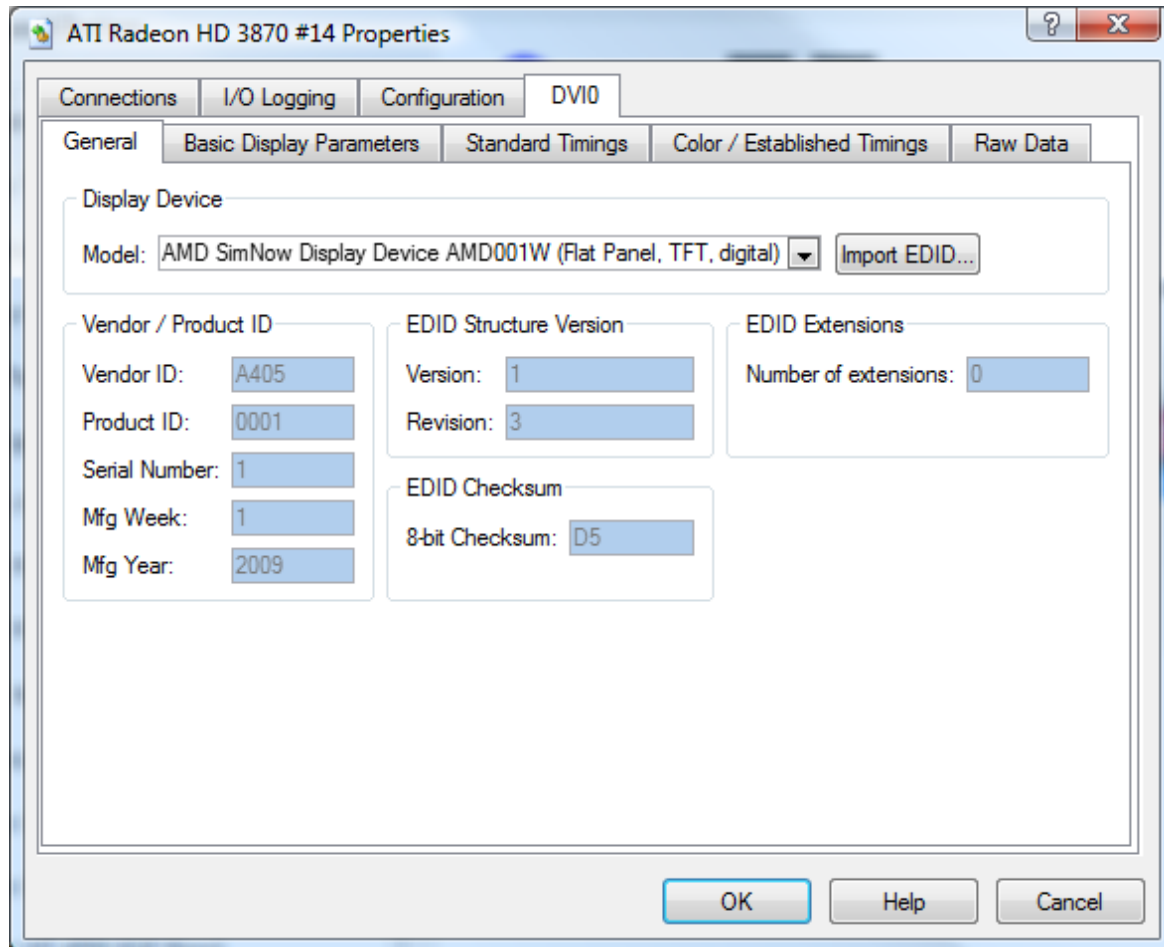
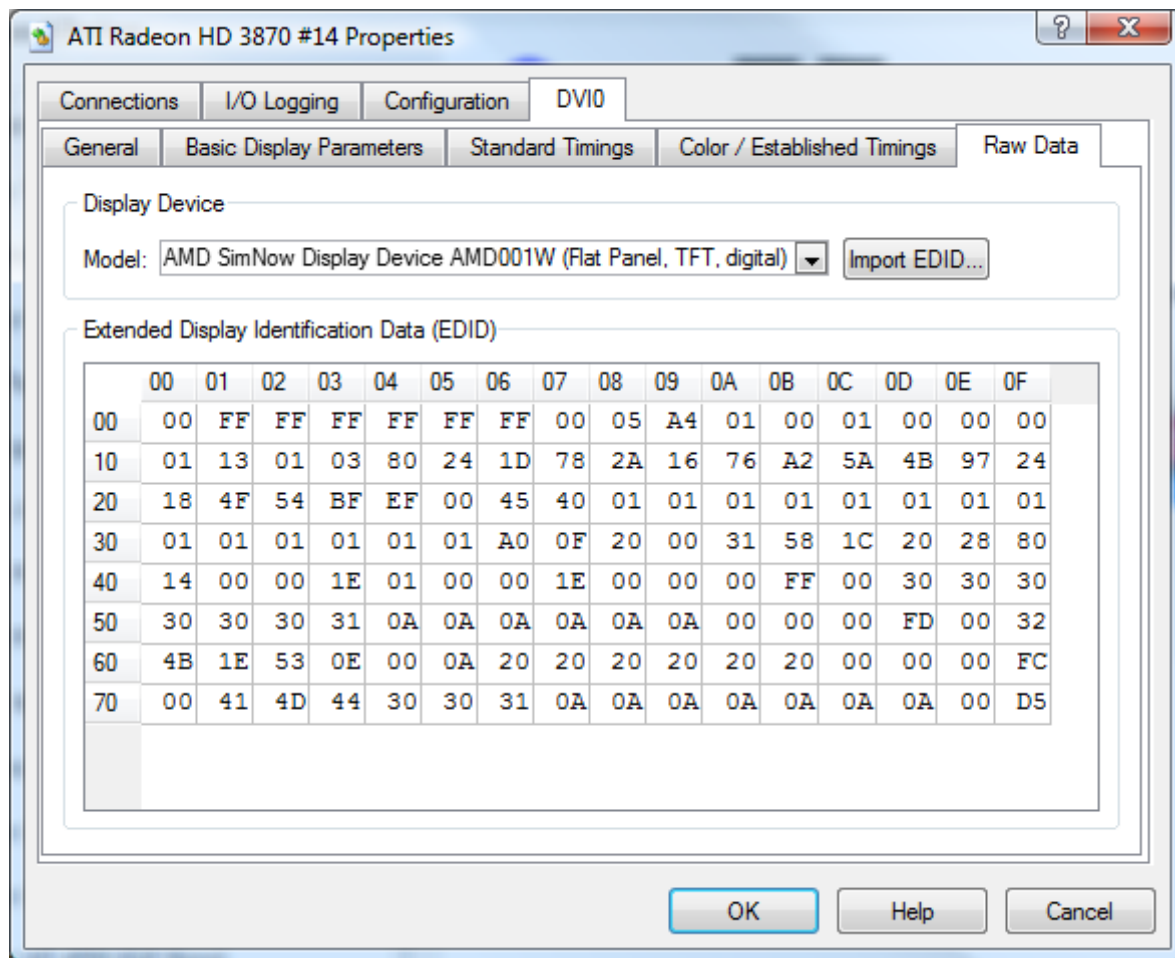

Figure 7-14: Display Device configuration
Figure 7-15: Extended Display Identification Data Viewer
*Figure 7-14* shows detailed information about the connected display device, such as “Basic Display Parameters”, “Standard Timings”, “Color / Established Timings”, and “Raw Data” (see *Figure 7-15*).